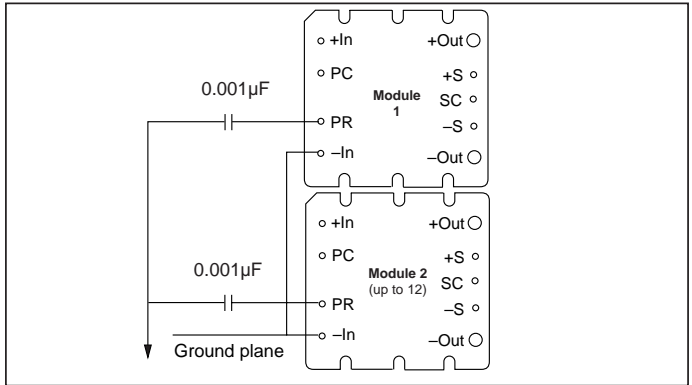

Figure 10—AC coupled single-wire interface.
**AC coupled single-wire interface.** All PR pins are connected to a single communication bus through 0.001µF (500V) capacitors. This interface supports current sharing and is fault tolerant except for the communication bus. See Figure 10.